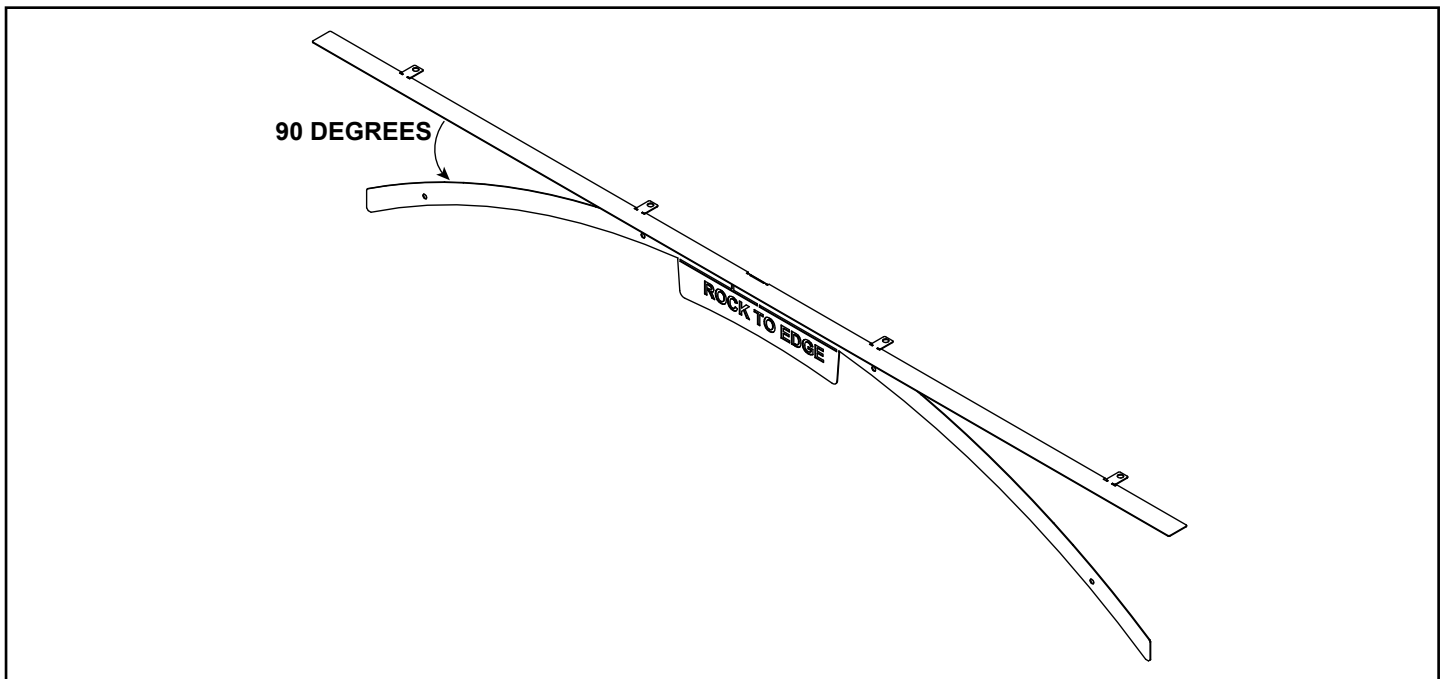

Figure 10.4 Top Arch Tab Piece Bent
1. Hand bend top arch piece down 90 degrees. See Figure 10.4.